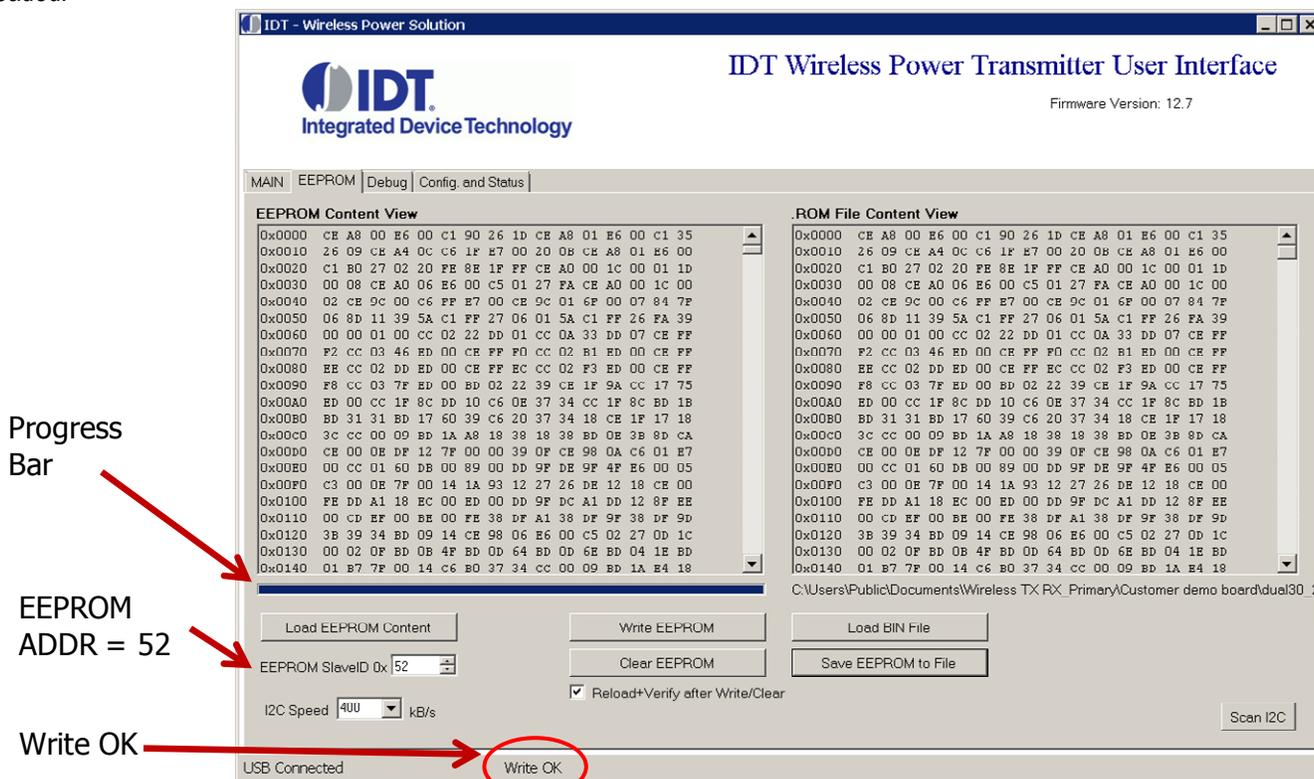

Figure 7. After Loading a BIN File and Writing to the EEPROM.
- 7) Set the EEPROM Slave ID to 52 and select the Scan I2C button (Fig 7 lower right) and check that the slave address for the EEPROM appears as 0x52 and then.
2. Depress and release the Reset button. This is the RED button on the demo board. If everything in 1 above is connected and the real time signals are still not streaming across the screen, depress the Red button. Also, enabling then disabling the "Reset Target" box on, then off, in the EEPROM Tab (Figure 7) will restart the device. Target field box can be used for clearing GUI I²C Read Errors or other system errors.
3. Select the Scan I²C button (Fig 7 lower right) and check that the slave address for the EEPROM appears as 0x52